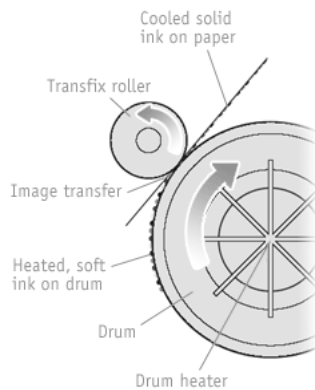

Figure 4
4. The ink is then bonded to the paper because the ink penetrates the fibers then cools and solidifies immediately, Figure 4. This results in a strong, permanent bond of the ink onto the paper.